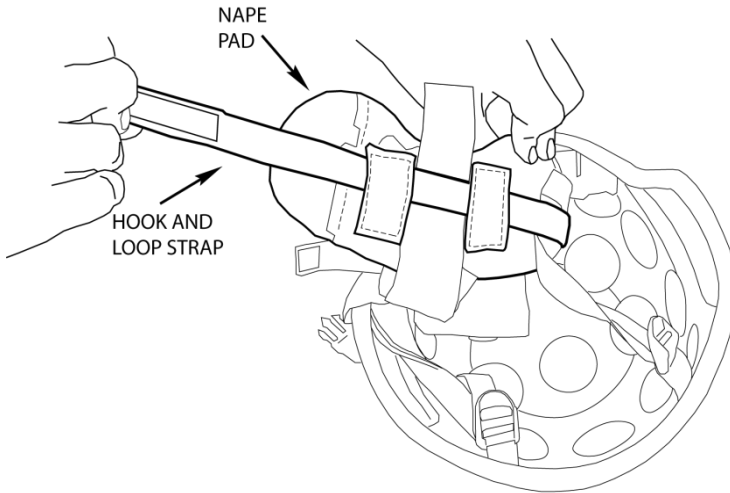

Figure 2. Ballistic Nape Pad Installed on Hook and Loop Strap.
5. Install the ballistic nape pad on the hook and loop strap as shown in Figure 2.